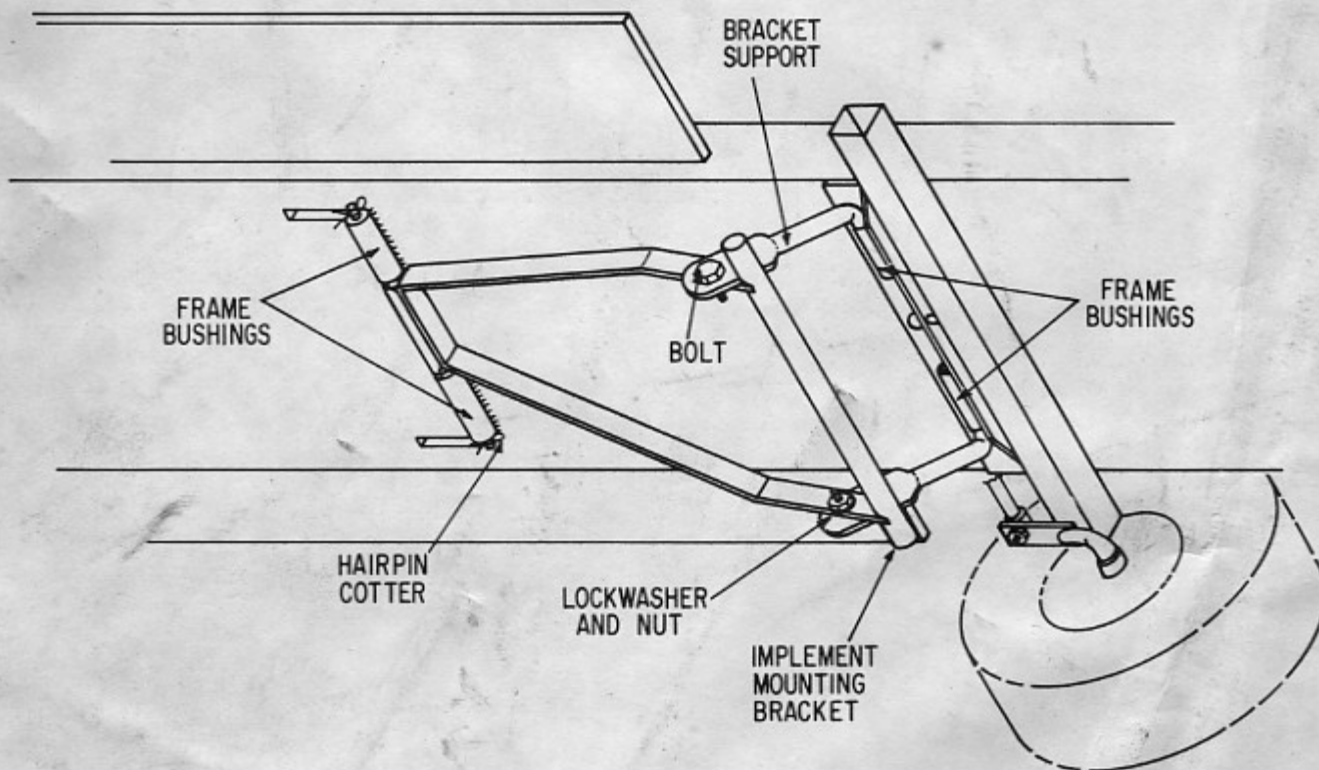

Figure 1 Bottom View (Wheel and steering not shown for clarity only)
2. Insert the two short bracket supports in the frame bushings near the front axle. See Figure 1.